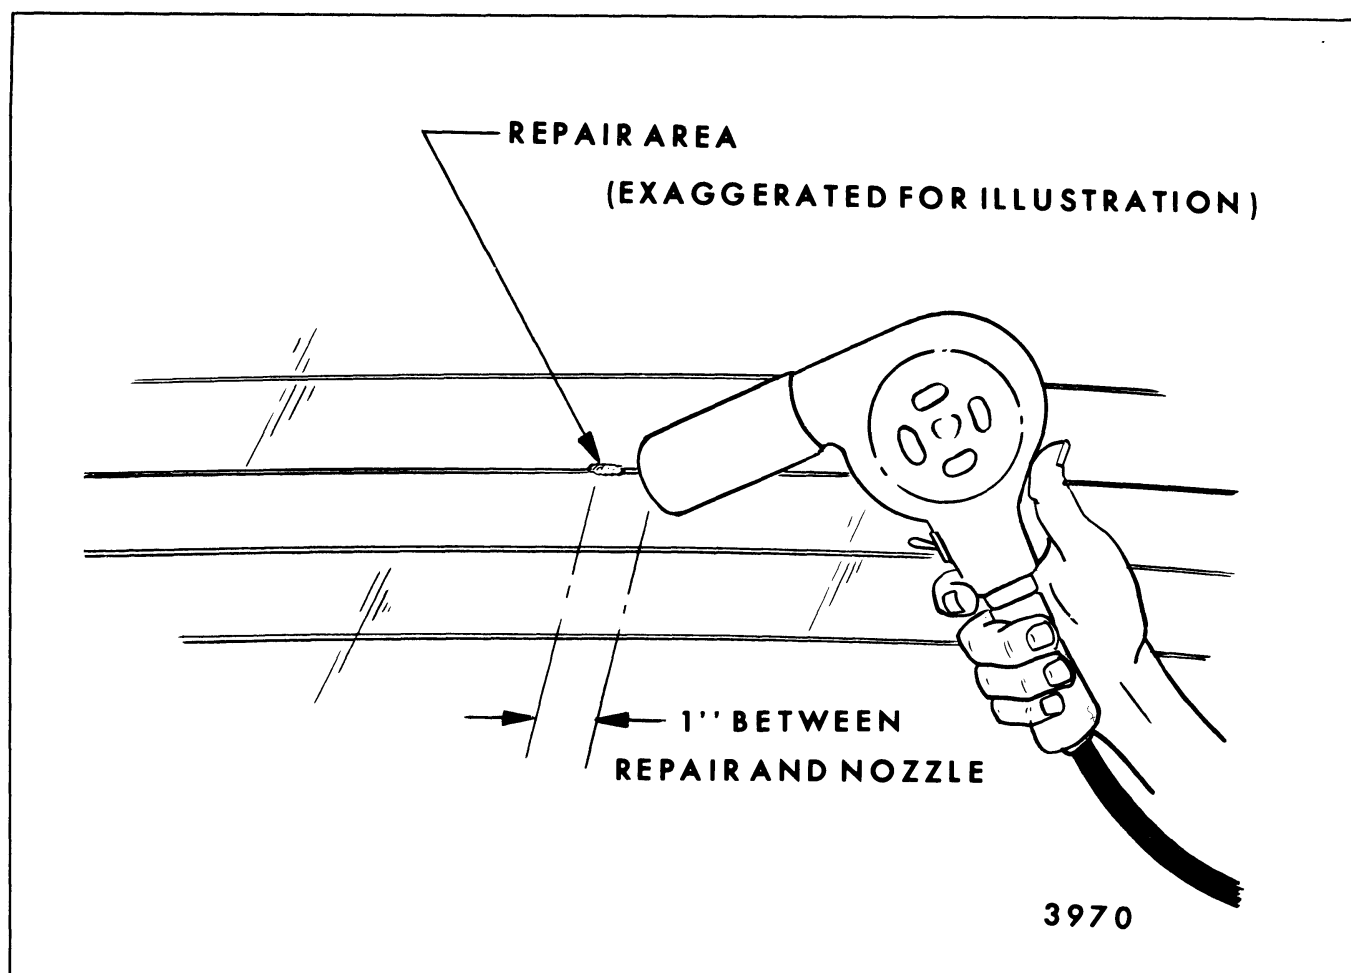

Fig. 10-53-Applying Heat to Grid Line Repair
9. Apply a constant stream of hot air directly to the repaired area with a heat gun (preferably 500 degrees F. to 700 degrees F. range) for 1 to 2 minutes. Heat gun nozzle should be held approximately 1 inch from repair (minimum of 300 degrees F. is essential for establishing conductivity) see Figure 10-53.